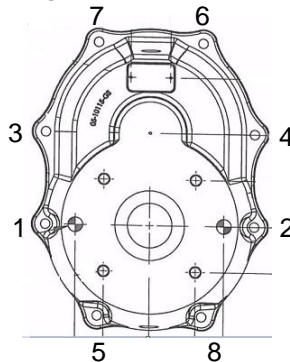

Figure 14
4. Tighten screws in the sequence shown in Figure 14. Torque to 100 lbs/in.